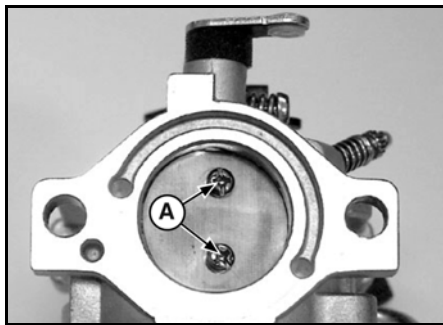

Figure 60
7. Rotate the throttle shaft to the closed position (Figure 60). Remove two screws (A) and the throttle plate.